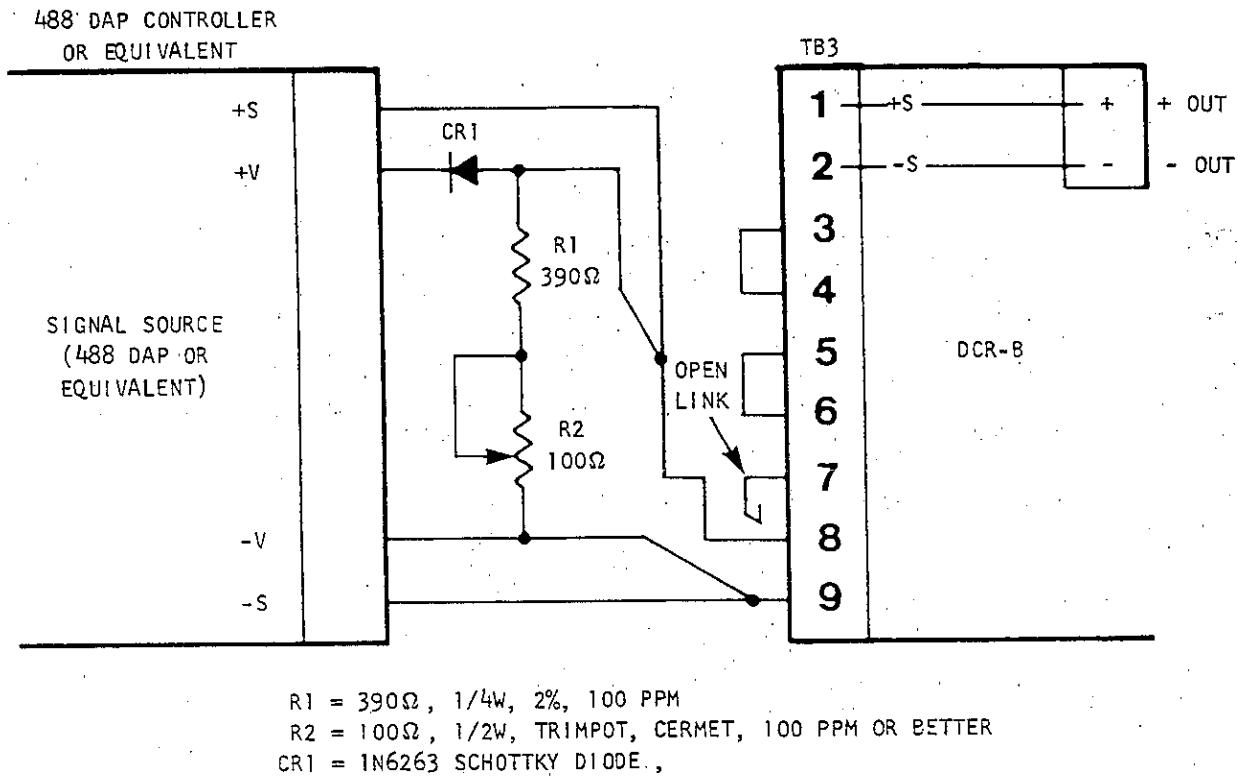

Figure 3-7 DCR-B Interconnections (Current Programming)
Figure 3-7 illustrates unit interconnection for the DCR-B power Supply Series.
9. Set external pot. (R2 in Figure 3-7) to obtain 115% of rated DCR-B output current.